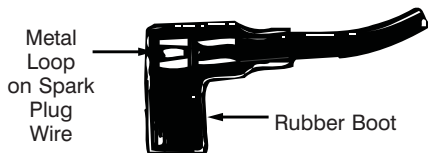

Figure 2
- Attach spark plug wire to spark plug. If unit is equipped with a rubber boot over the end of the spark plug wire, make certain the metal loop on the end of the spark plug wire (inside the rubber boot) is fastened securely over the metal tip on the spark plug. See Figure 2.